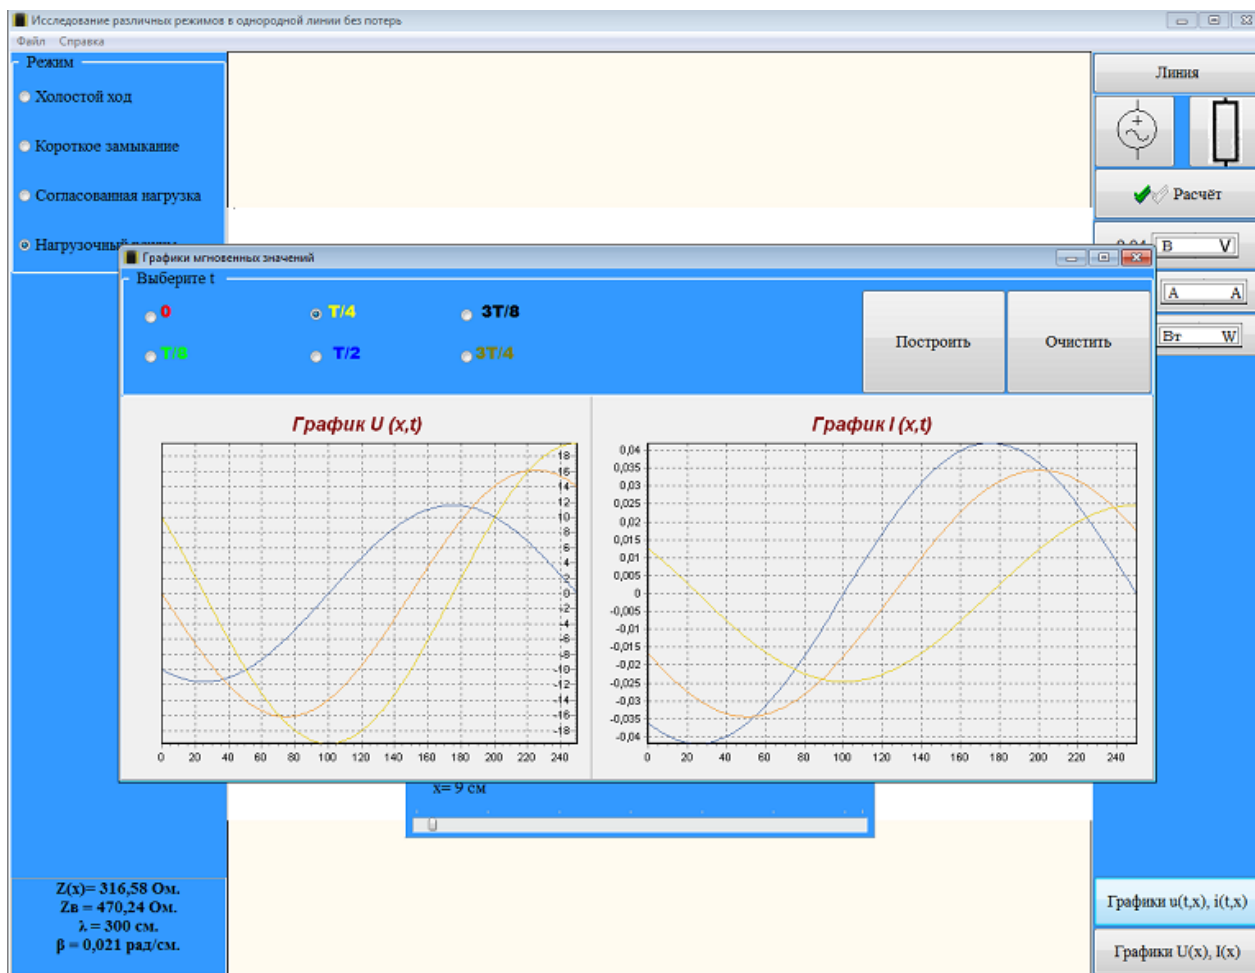

Figure 7.8 – Graphs of the instantaneous voltage and current values
6. To obtain the graphs of the distribution of the instantaneous values of voltage and current along the line at different time moments, click on the “Graphs”  $u(t, x)$ ,  $i(t, x)$  graphs, in the resulting window, click on the “Get graphics” button and then in sequential order buttons corresponding to different time points: 0,  $T/8$ ,  $T/4$ ,  $T/2$ ,  $3T/8$ ,  $3T/4$  (figure 7.8).